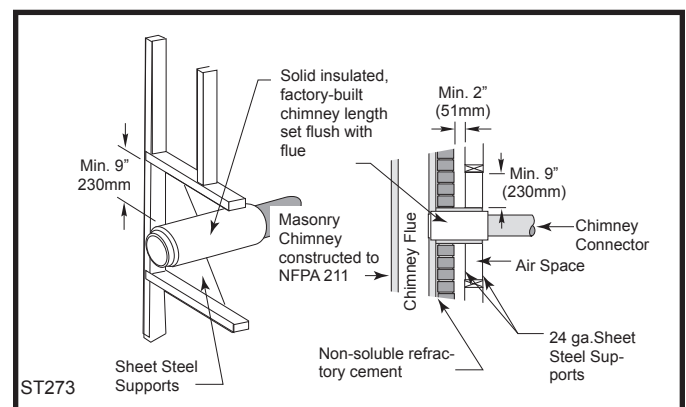

Fig. 8 Wall Pass-through using factory-built insulated chimney section.
- Using a section of double-wall chimney with a 9" (229 mm) clearance to combustibles. (Fig. 8)